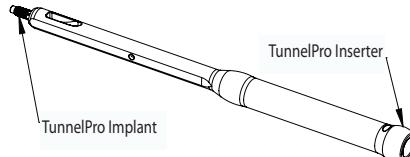

Fig. 1: The TunnelPro™
- Cat. # SMB100201 TunnelPro™ (box contains 2 units) - see figure 1 below